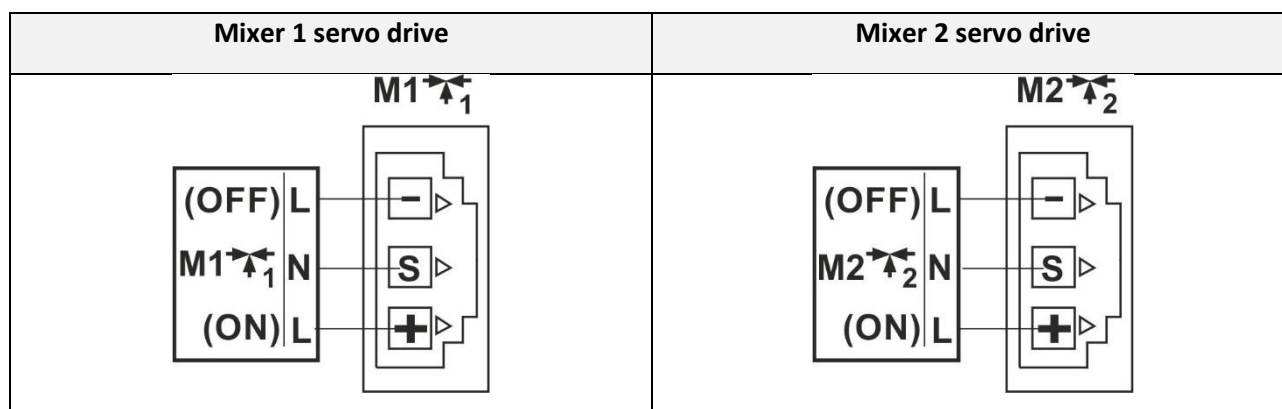

Figure 26. Wiring diagram of Mixer servo drive
- connect the Mixer drive with the controller via the connector on the left wall of the switchboard to the controller (see Figure 26) according to the technical documentation of the actuator manufacturer. Pay attention to the correct designation of the wires for opening and closing the valve.